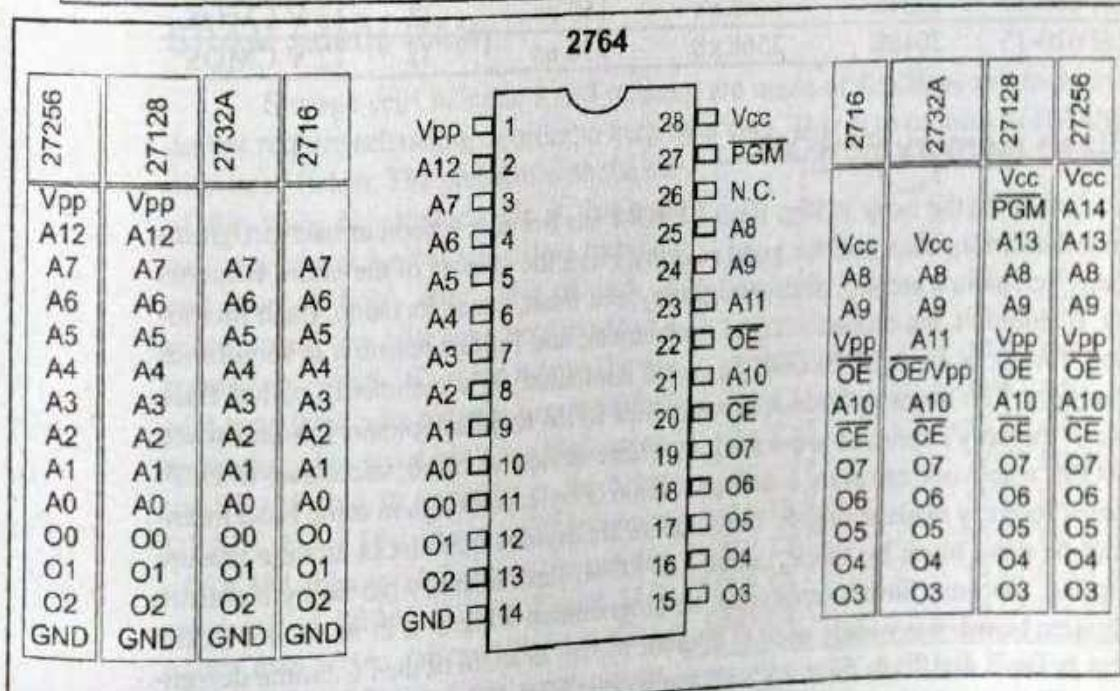

Figure 14-1. Pin Configurations for 27xx ROM Family
EPROM was invented to allow making changes in the contents of PROM after it is burned. In EPROM, one can program the memory chip and erase it thousands of times. This is especially necessary during development of the prototype of a microprocessor-based project. A widely used EPROM is called UV-EPROM, where UV stands for ultraviolet. The only problem with UV-EPROM is that erasing its contents can take up to 20 minutes. All UV-EPROM chips have a window through which the programmer can shine ultraviolet (UV) radiation to erase its contents. For this reason, EPROM is also referred to as UV-erasable EPROM or simply UV-EPROM. Figure 14-1 shows the pins for a UV-EPROM chip.